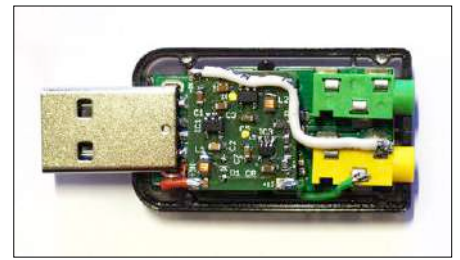

Figure 6. The assembled phantom power supply wired into the USB sound card.
**Figure 6** shows the stick with the board fitted. The components are tiny, but I found it fairly easy to solder the 0603-size resistors and capacitors by hand. The two coils, both 0805-size (their DC resistance is not critical in this application), are even more straightforward. The only component that is tricky to solder is IC3. It is important to note that the best point to pick up the ground connection is from the furthest pin on the microphone socket (white wire); the 13 V phantom power supply is taken to the microphone socket on the green wire. Once all is ready and the stick is plugged in to a 5-V supply, you should be able to measure 13 V at that point. Finally refit the plastic lid and there you have it: a compact external